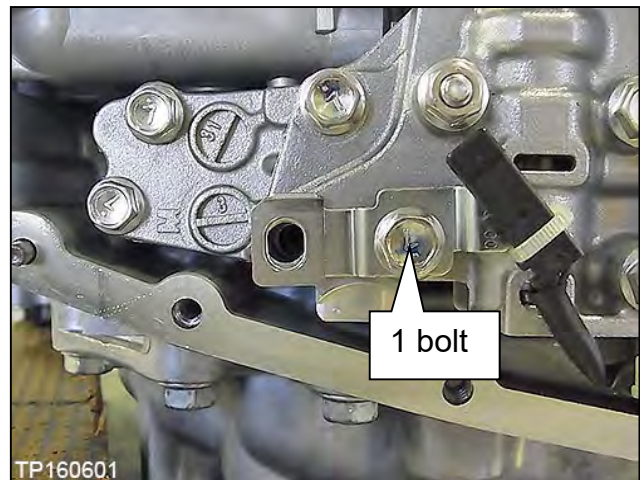

Figure 147
117. Install the CVT fluid temperature sensor bracket to the valve body with one (1) bolt (Figure 147).